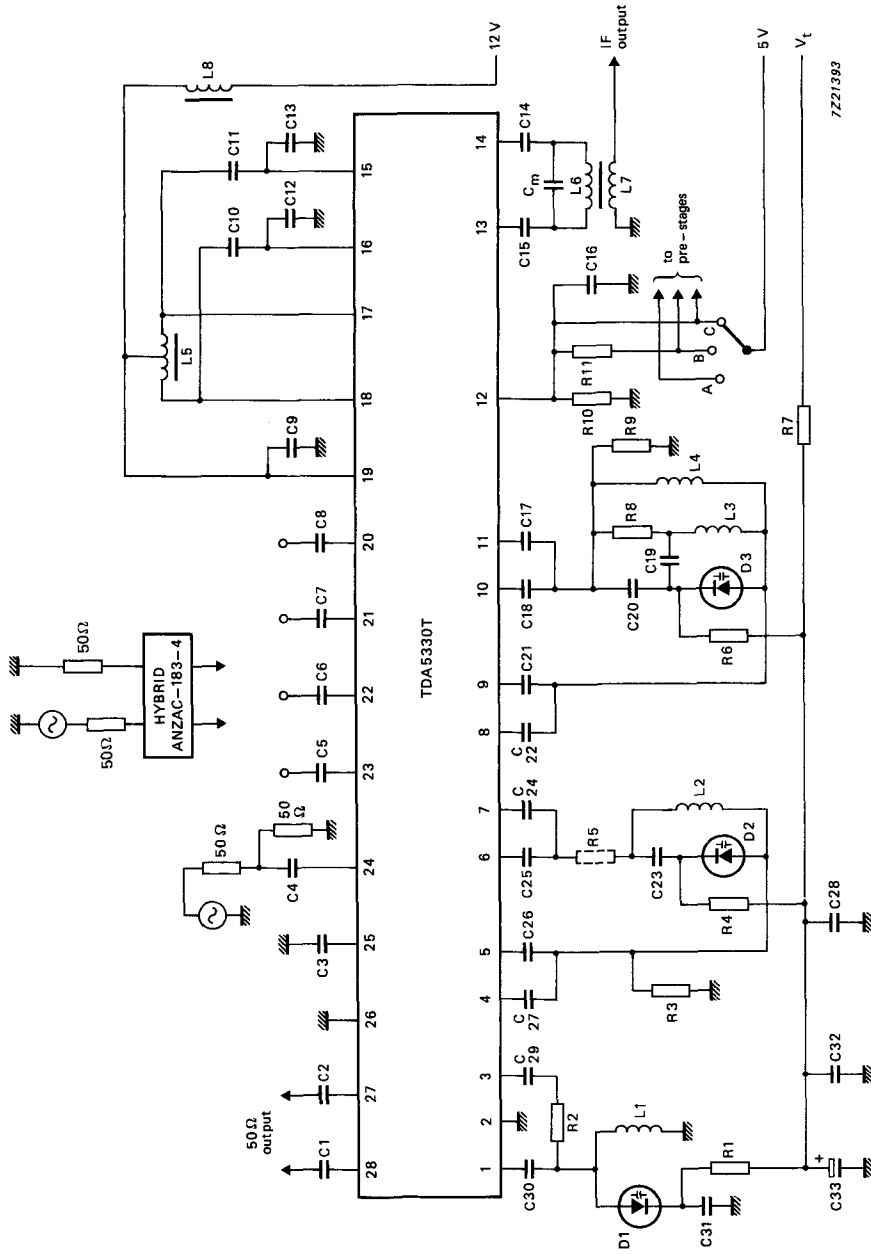

Fig. 9 Test circuit diagram.
measured using circuit shown in Fig. 9; measurements using hybrid; note 2
4. The gain is defined as the transducer gain (measured in Fig. 9) plus the voltage transformation ratio of L6 to L7 (6:1, 16 dB).